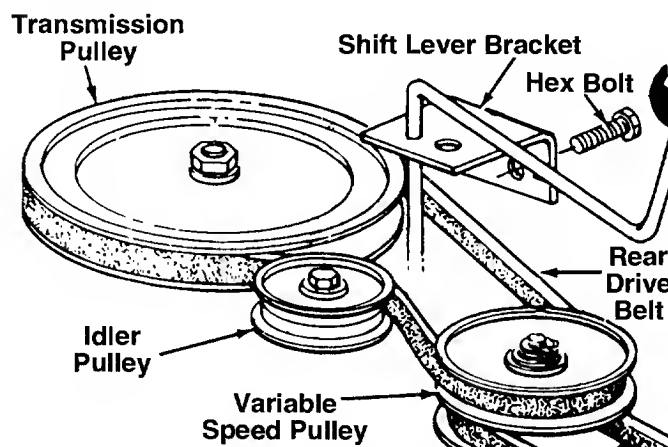

FIGURE 22.
- Push the idler pulley toward the right side of the unit. Lift the belt over the idler pulley. See figure 22.
- Remove the two bolts which hold the shift lever bracket to the frame on the left side of the unit. Swing the bracket toward the right so the belt can be removed from the transmission pulley. See figure 22.